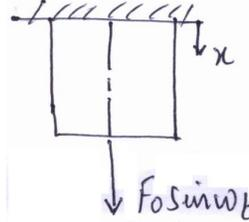

Fig.Q.8(b)
- b. Find the longitudinal forced vibration of a uniform cross section bar subjected to a sinusoidal force $F_0 \sin \omega t$ as shown in the Fig.Q.8(b). (10 Marks)